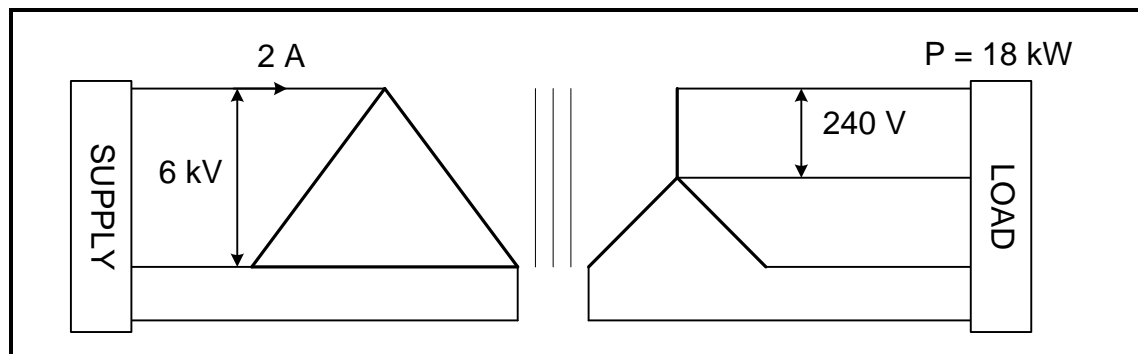

FIGURE 5.6: THREE-PHASE TRANSFORMER
5.6 FIGURE 5.6 below shows a three-phase delta-star transformer.